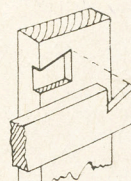
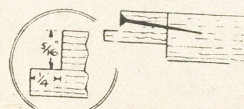

Fig. 4—Dove-tail joint in the rails
Fig. 3—Nailed joint
In construction the inner edges of the top, bottom, and inner end rails, and both edges of the dividing rails should be rebated, as shown in Fig. 3, to form recesses for the glasses and photographs. The top and bottom rails are then dovetail lapped into the end rails, as shown at (B) Fig. 2 and in detail Fig. 4. It will be noticed that half only of each face of the frame, front and back, is given here in Fig. 2.
Then fix the end rebated rails in place, skew-nailing them to the top and bottom rails and driving long but fine wire nails into the end rails, as shown in Fig. 3. The inner rebated rails are also skew-nailed to the top and bottom rails, and the extreme top rail—or shelf, as it may be called, glued and screwed from above.